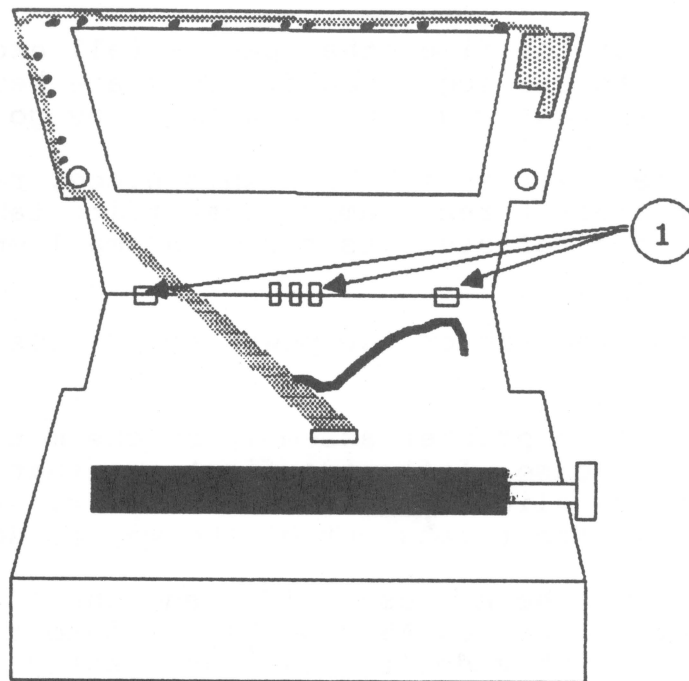

Figure 9
15. Make sure the ribbon cable in the case cover is seated behind the posts along the inner edge of the case cover. (See Figure 9.)
- a) Rest the back edge of the case cover on the back edge of the case, so that the tabs on the back edge of the cover are positioned properly (see Figure 9, #1).